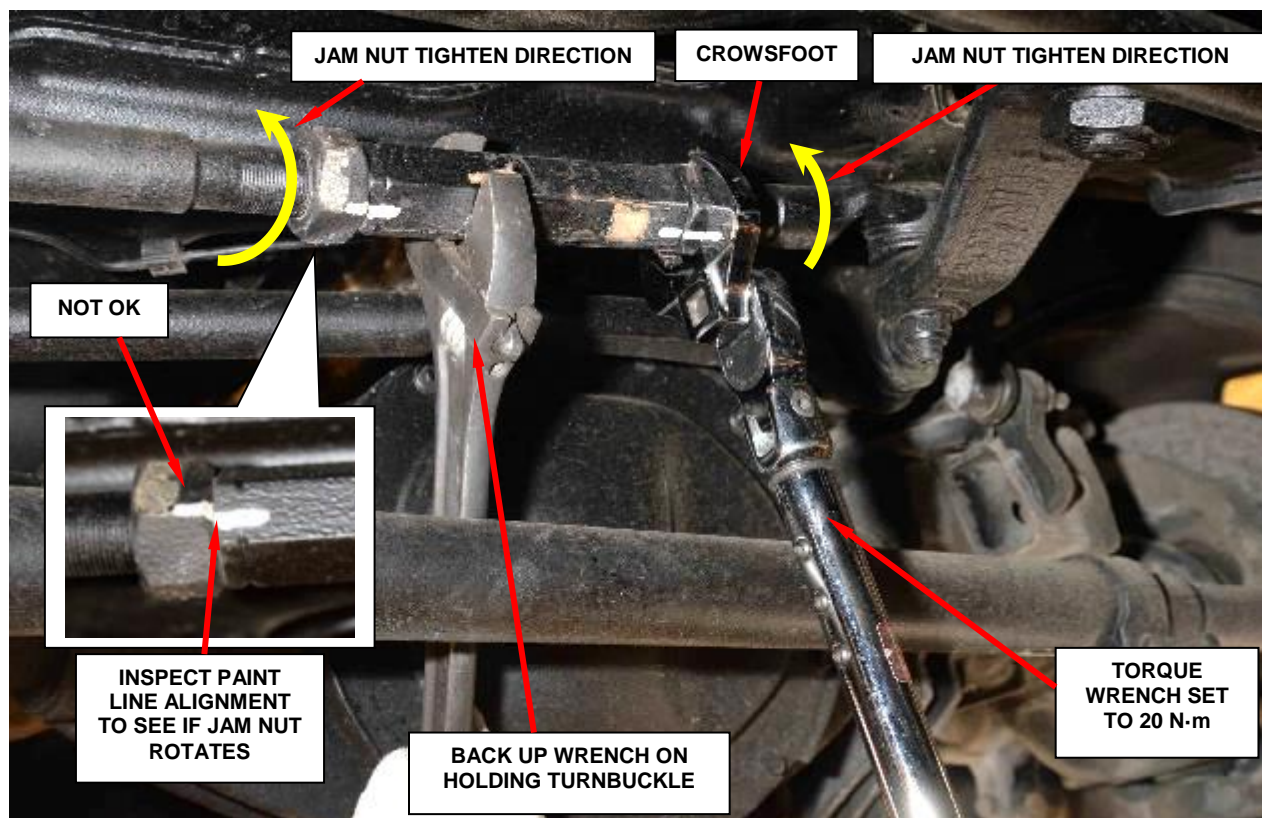

Figure 2 – Inspect for Jam Nut Movement
4. Hold the drag link turnbuckle with back-up wrench (Figure 2).
5. Using a 41 mm crow'sfoot, such as Special Tool 2069400190 (Snap-on SCOM41) or equivalent, set a torque wrench to 20 N·m (15 ft. lbs.) (Figure 2).
6. Rotate each jam nut **in direction as shown** (tightening direction) until wrench clicks or 20 N·m (15 ft. lbs.) is achieved (Figure 2).
2. After adjustment, using a backer wrench and a 41 mm crowsfoot, such as Special Tool 2069400190 (Snap-on SCOM41) or equivalent, tighten the drag link turnbuckle jam nuts to 148 N·m (109 ft. lbs.). **Make sure the toe setting does not change during tightening (Figure 2).**
10. Using a backer wrench and a 41 mm crowsfoot, such as Special Tool 2069400190 (Snap-on SCOM41) or equivalent, set a torque wrench to 105 N·m (77 ft. lbs.) and attempt to loosen each jam nut (ref: Figure 2 for set-up).